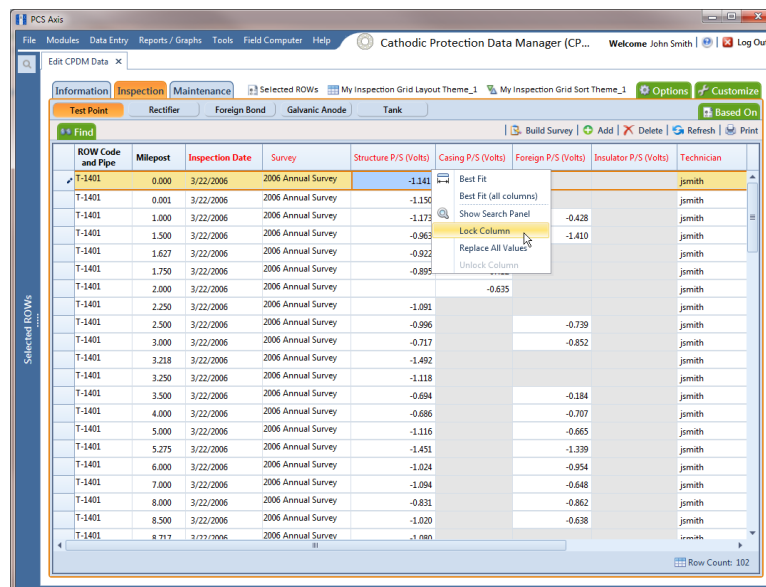

Figure 7-2. Lock Grid Column
- Right-click a grid column and then select **Lock Column** in the shortcut menu that opens (Figure 7-2).